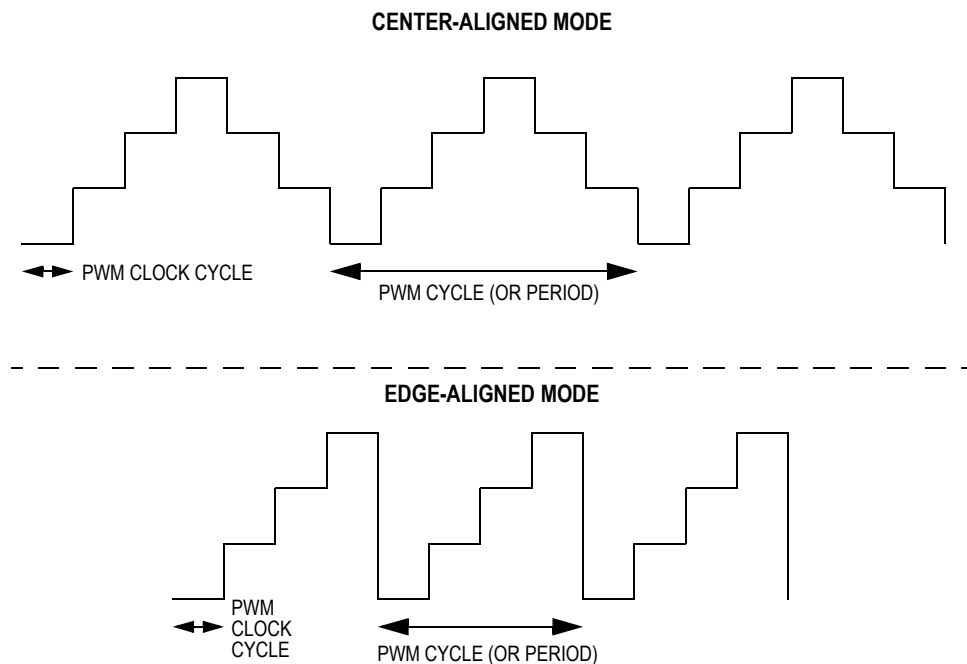

Figure 9-43. PWM Clock Cycle and PWM Cycle Definitions
PWM Clock Cycle (or Period) — One tick of the PWM counter ($1/f_{OP}$ with no prescaler). See Figure 9-43.
- Center-aligned mode: The time it takes the PWM counter to count up and count down ($\text{modulus} * 2/f_{OP}$ assuming no prescaler). See Figure 9-43.
- Edge-aligned mode: The time it takes the PWM counter to count up ($\text{modulus}/f_{OP}$). See Figure 9-43.